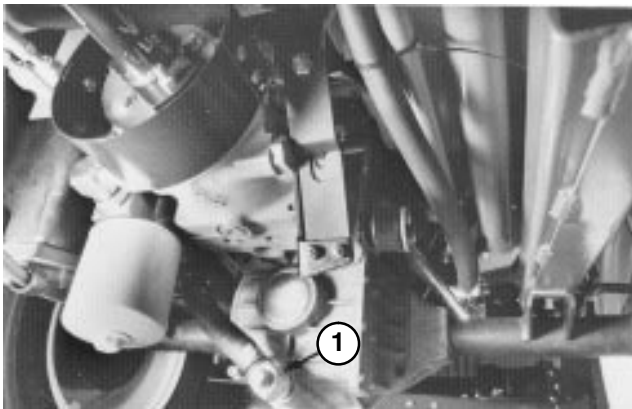
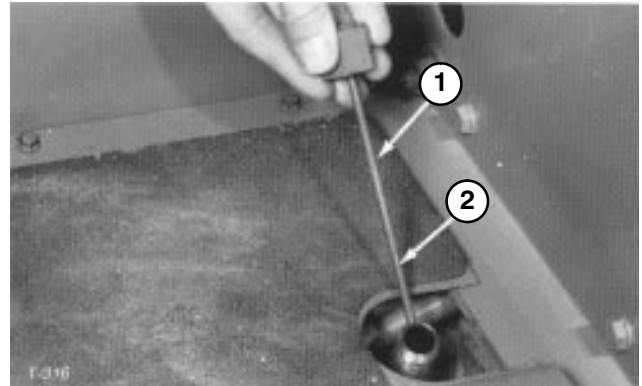

Figure 66
Figure 67
4. Remove drain plug from fitting between axle housing and oil filter and allow oil to flow into drain pan (Fig. 66).
6. Install drain plug in fitting between axle housing and oil filter (Fig. 66).
7. Remove dipstick from axle filler tube (Fig. 67) and fill axle to proper level with correct type and viscosity oil recommended for expected ambient temperature conditions; refer to table above.
9. Leave machine set for two additional minutes, then remove dipstick and check oil level in axle (Fig. 67). If level is low, add oil until level matches groove in dipstick (Fig. 67). If level is too high, remove drain plug (Fig. 66) and drain oil until oil level matches groove in dipstick.